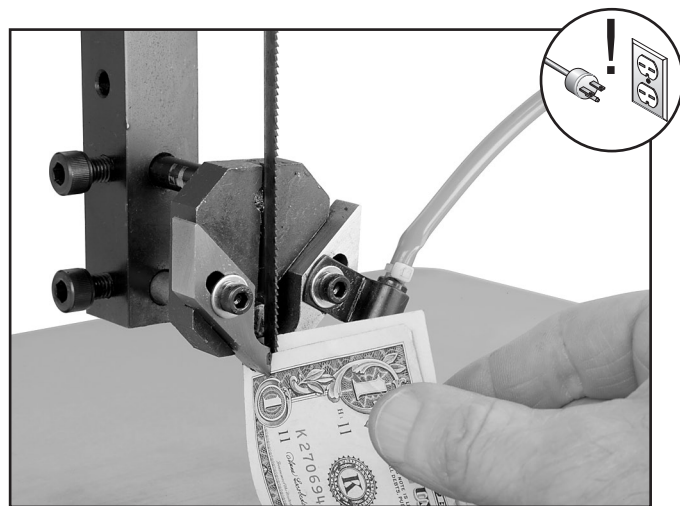

Figure 30. Using a dollar bill to set blade guide spacing.
- Fold a crisp dollar bill in half and place it over the blade (between the blade guides and the blade), as shown in **Figure 30**.